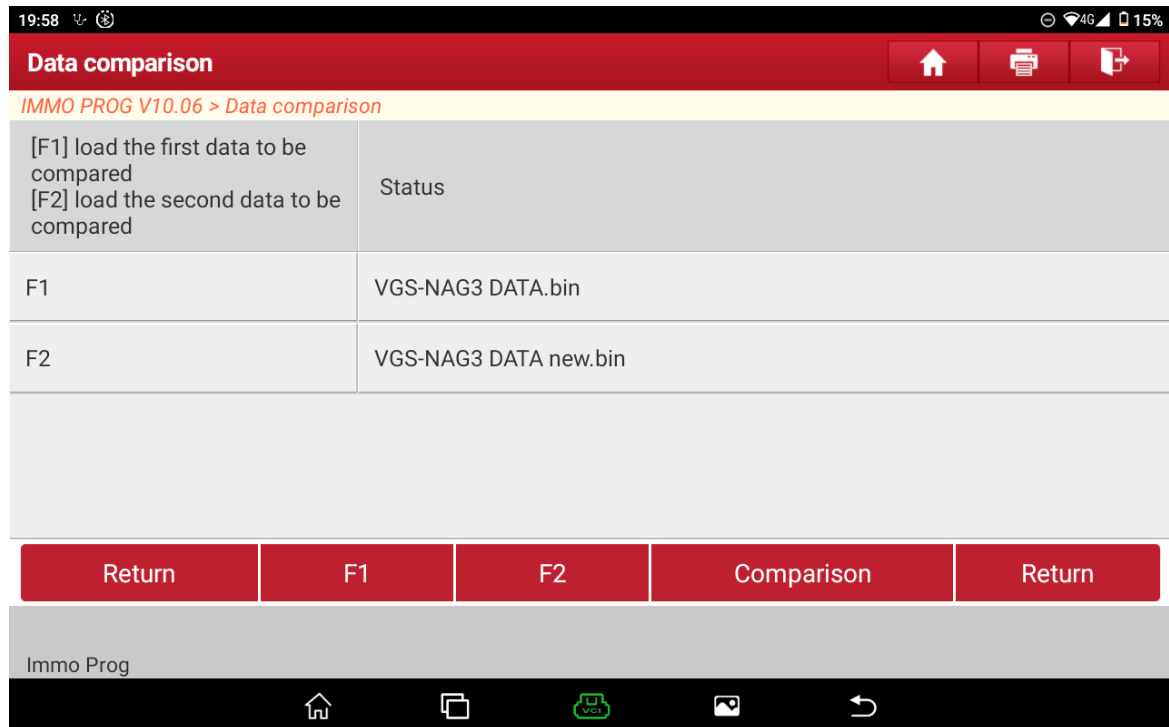

Figure 19
13. Click **【F1】** 、**【F2】** to respectively import the data of original gearbox saved in step 7 and the data of external gearbox saved in step 11, as shown in Figure 19;